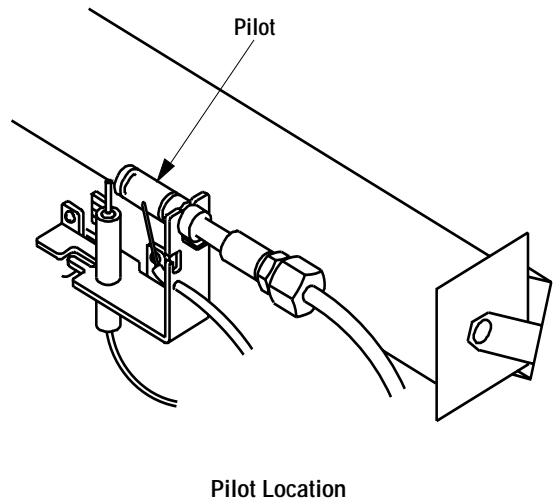

Figure 15
6. The pilot is located on the right side in front of the burner (*Figure 15*).